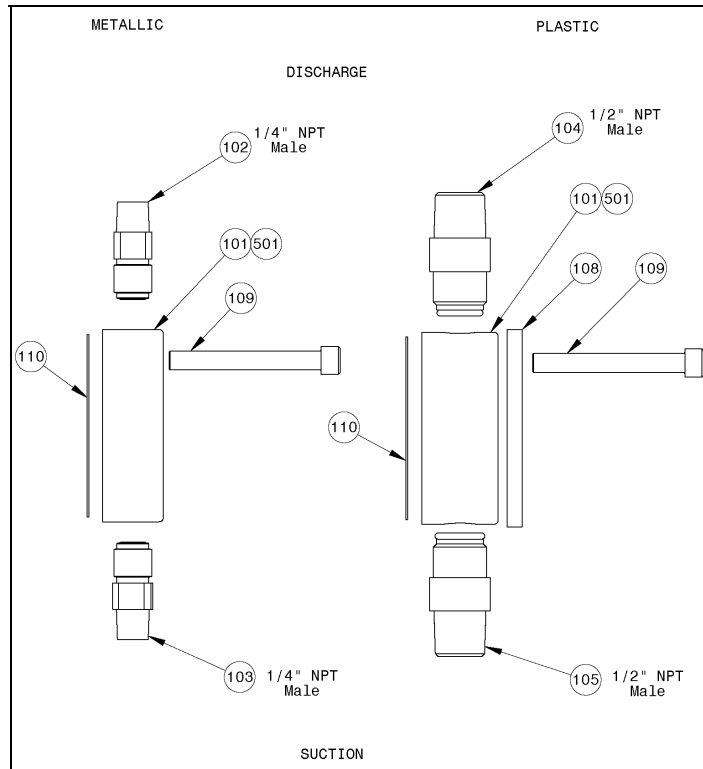

Figure 4. Metallic/Plastic, Head Assembly, Size A.
3. Remove suction and discharge check valve caps as shown in Figure 4. Be sure not to drop valve components as damage may occur.
10. Replace check valve assemblies Figures 4 - 7. Torques on valve caps are critical (size B & C only). Consult Table 2 for correct torque value. Size A check valve caps are tightened to compress o-ring.